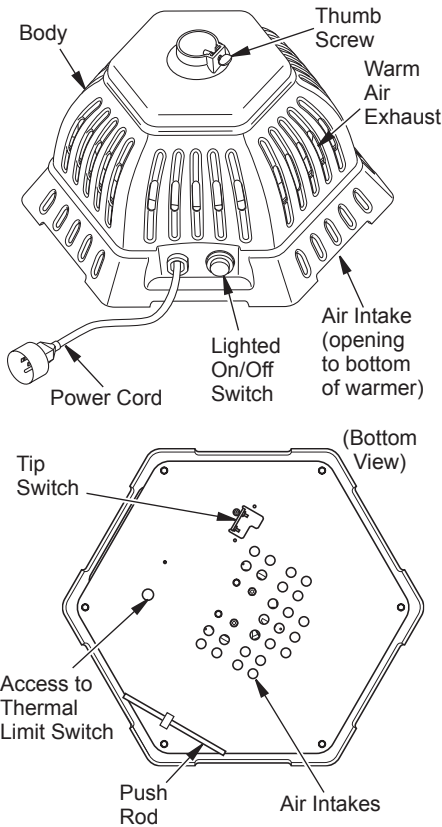

Figure 3 - Umbrella Stand Warmer
15. Do not place or store where product can fall or be pulled into swimming pool or body of water. If product falls into water, unplug immediately. DO NOT REACH INTO WATER. If water is above the air intakes (see Figure 3, page 4) or product is totally immersed in water, dispose of heater properly.
1. Locate product under outdoor patio table on hard, level, dry surface. Post of tip over switch must be on solid surface for product to work. Listen for the “click”. See Figure 3 for switch location.